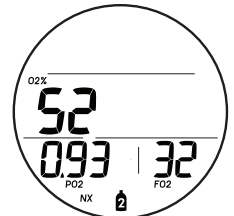

Fig. 104 - DECO STOP ALT 3
**Deco Stop Alt 3** (if Nitrox), information includes (Fig. 104):